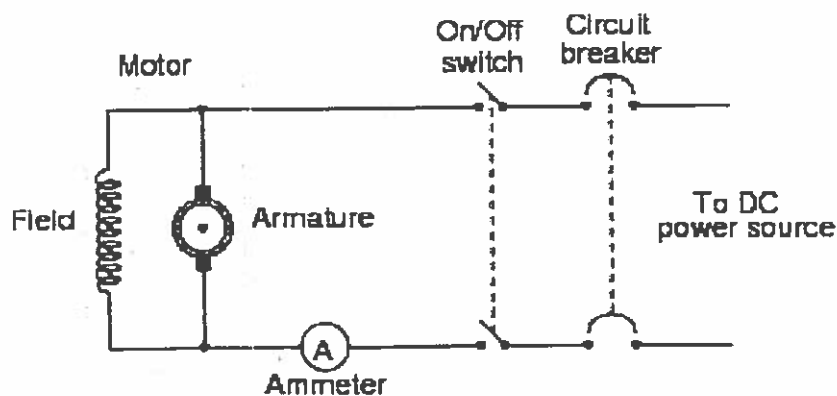

Fig. 1
Refer to Figure 1
- (c) A DC motor is connected as shown in figure 1. For some reason a problem has developed in this motor circuit. Once the switch is turned "ON", the motor does not turn. However, it does draw a lot of current (several times the normal operating current) as indicated by the ammeter: Explain what is wrong and the action to be taken to repair the motor circuit. **(4 marks)**